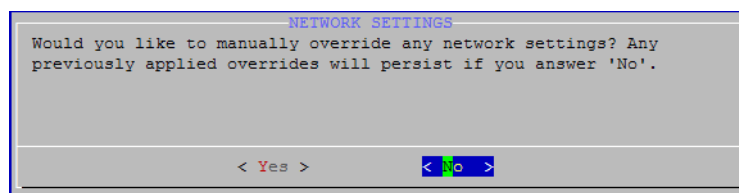

Figure 3-53 Network Settings Screen
8. If your system does not have a SAS connected, the **Network Settings** screen appears, which asks if you want to override any network settings, as shown in Figure 3-53. Proceed to step 9.
18. Select **Configure SAS enclosure** if you want to configure the SAS device. If you do not want to configure the SAS, select **Continue**, refer to Figure 3-53, and then proceed directly to step 9.
The system begins the configuration/initialization process, which takes approximately 24 hours. A black text screen appears, and after a few minutes, the **Network Settings** screen reappears, as shown in Figure 3-53, and you can continue with the configuration.